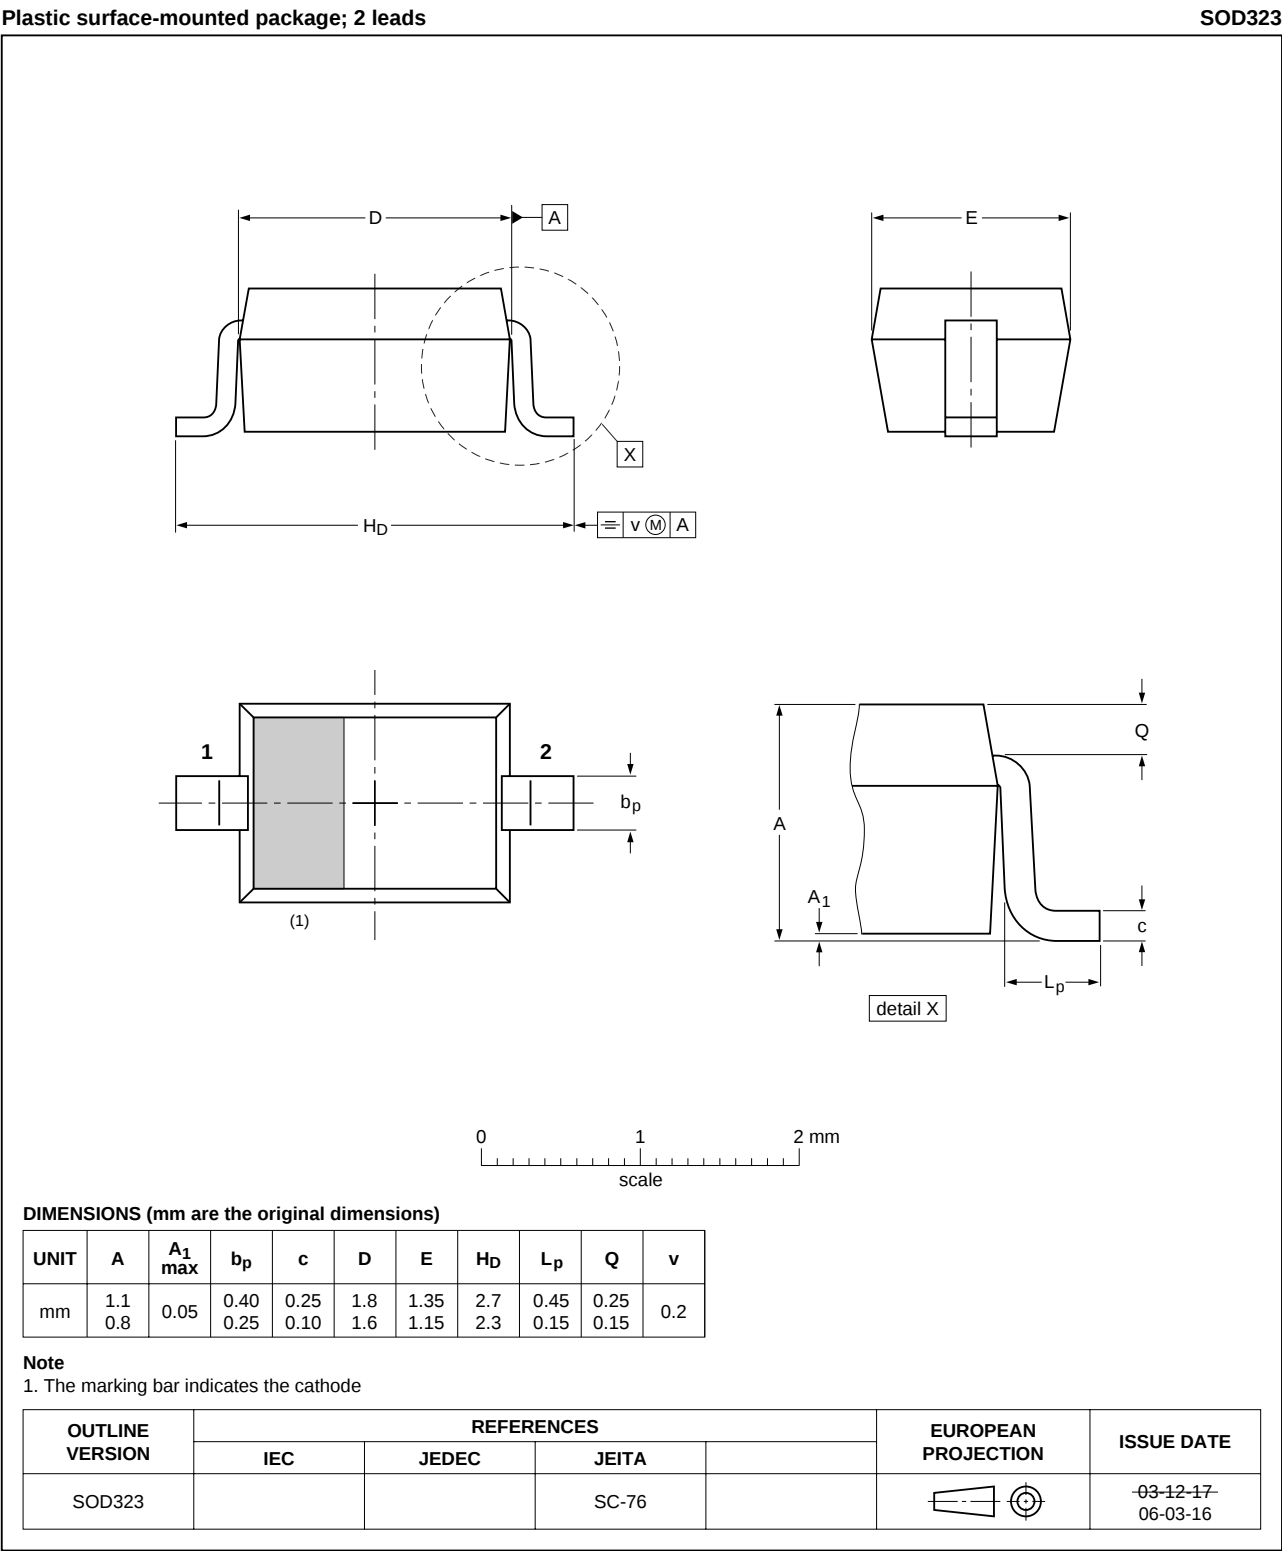

Fig 10. Package outline SOD323 (SC-76)
- This data sheet was changed to reflect the new company name NXP Semiconductors, including new legal definitions and disclaimers. No changes were made to the technical content. Figure 10 "Package outline SOD323 (SC-76)": updated